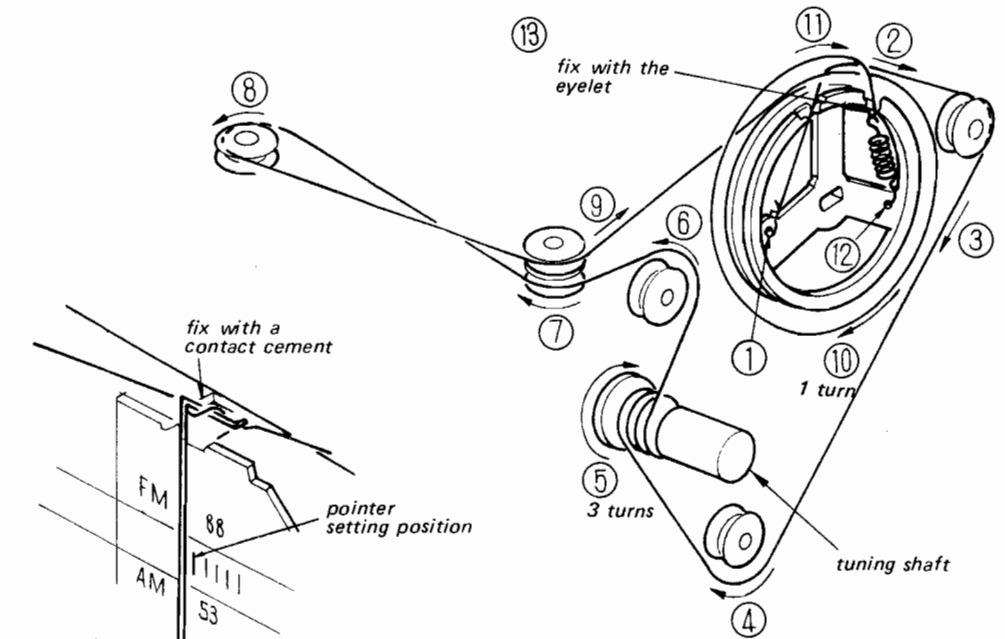

Fig. 2-10
3. Set the dial cord in numerical order as shown in Fig. 2-10.